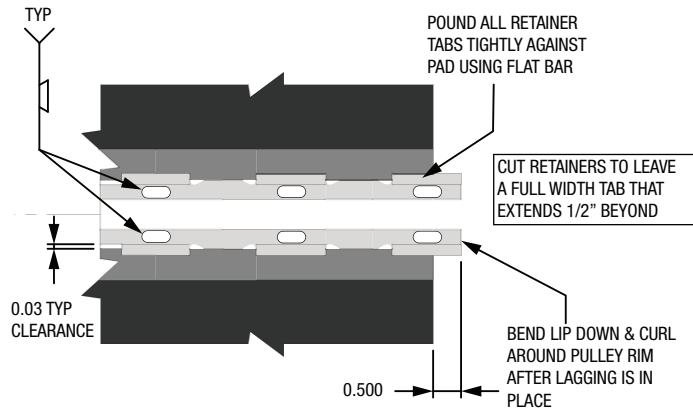

Figure 2 - Retainer for bend over method
- Remove the lagging pad and plug weld the double retainer into the pulley face through a minimum of three pre-punched holes using the procedures shown in Welding Procedures. If using Option B, the retainer should extend beyond the end of the pulley by one-half inch so that it can be hammered over to hold it in place (See Figure 2).